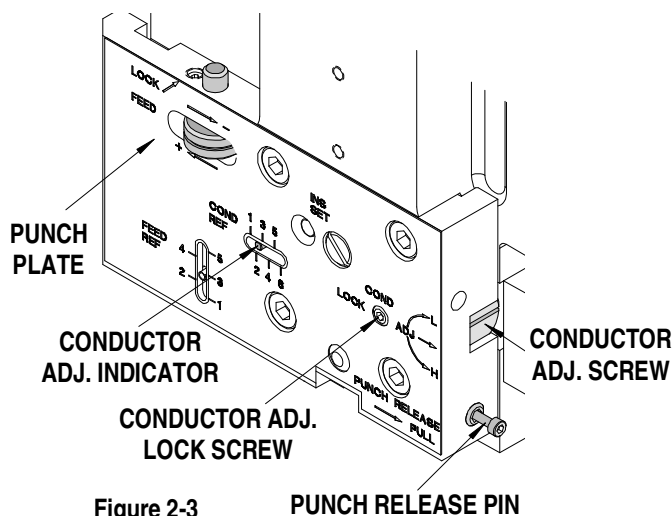

Figure 2-3
6. Loosen the M6 conductor adjustment lock screw located on the front of the punch plate. See Figure 2-3.